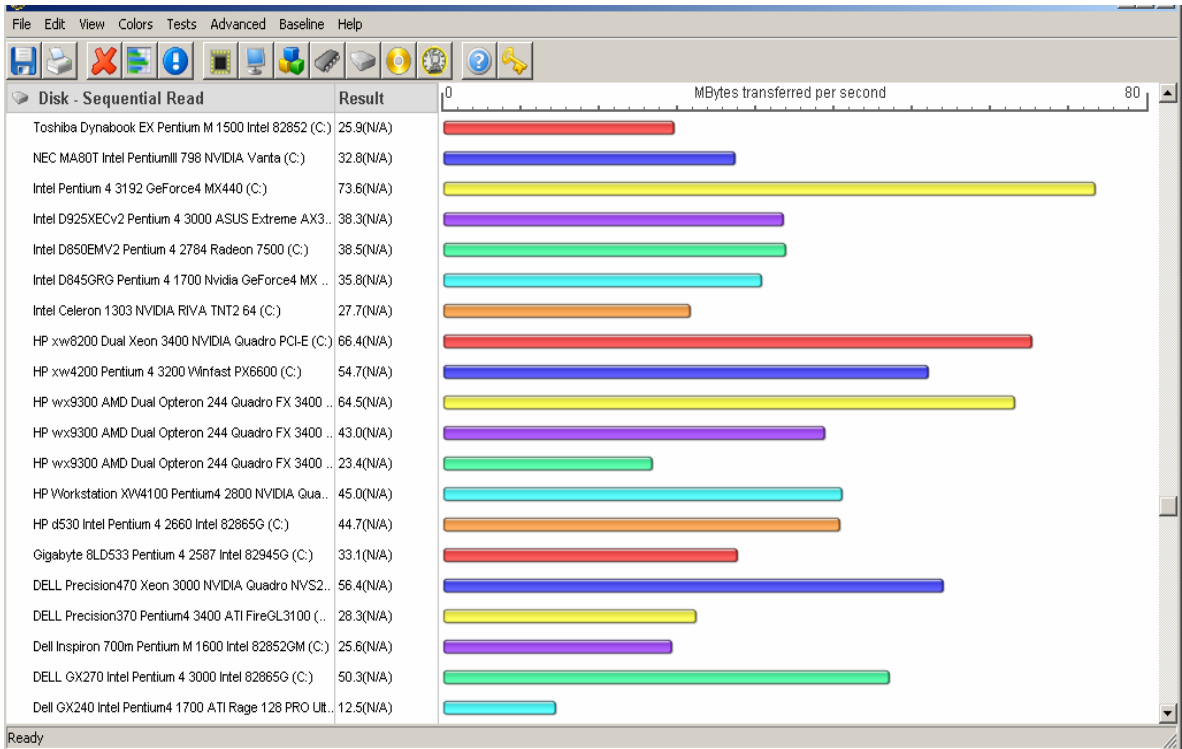

Figure 8.22 CPU PERFORMANCE FOR DISK SEQUENTIAL READ
**Disk Random Seek RW:** - A large test file is created on the disk under test. The file is read randomly; a seek is performed to move the file pointer to a random position in the file, a 16KB block is read or written then another seek is performed. The amount of data actually transferred is highly dependent on the disk seek time. Figure 8.22 to 8.24 shows disk test suit performance chart and comparison for different type of CPUs.